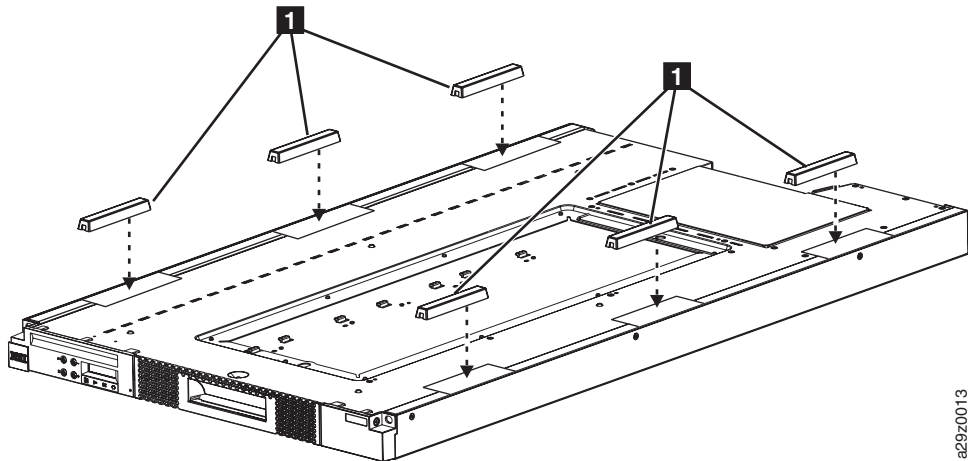

Figure 8-8. Attaching the feet
2. Turn the library over and attach the feet **1** to the designated locations on the bottom of the library (Figure 8-8). Return the library to the upright position.